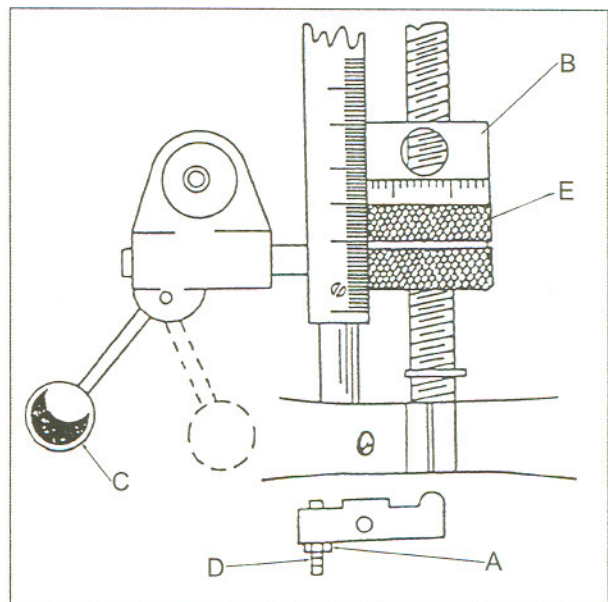

Fig. 14
1. Loosen lock nut (A, Fig. 14).
2. Engage trip handle (C, Fig. 14) by pulling away from head assembly.
3. Adjust micro nuts (E, Fig. 14) against quill stop (B, Fig. 14).
4. Slowly turn adjusting screw (D, Fig. 14) until lever (C, Fig. 14) trips.
5. Tighten lock nut (A, Fig. 14)